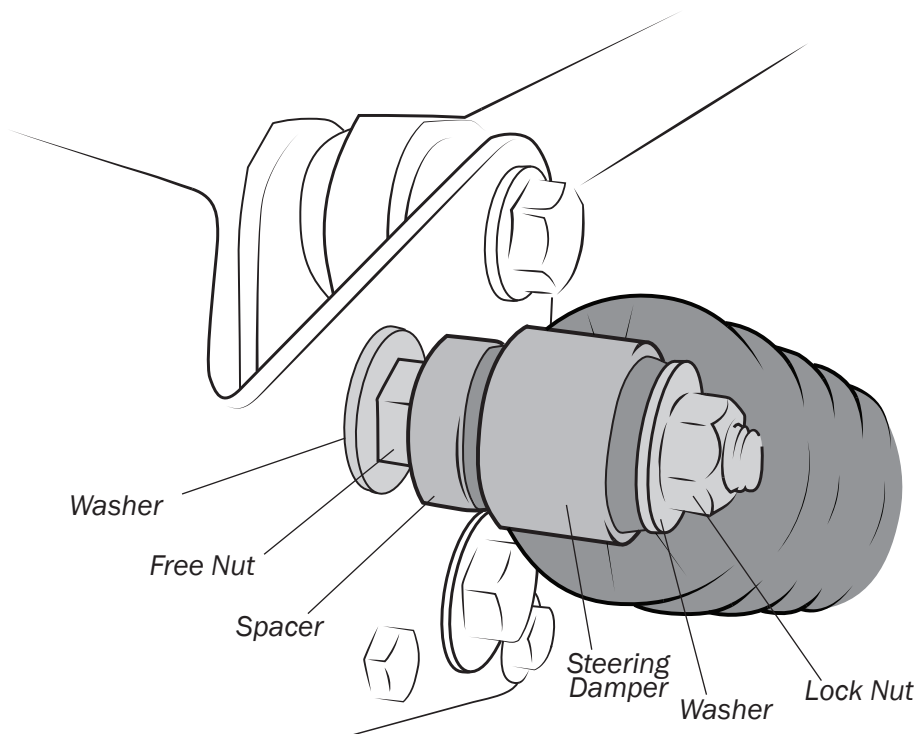

Figure 6
- C. Attach the damper to the new High Steer axle bracket orienting the hardware as shown (Fig. 6). NOTE: the Old Man Emu Steering damper includes a spacer sleeve for proper fitment on bolt. Rotate the black rubber boot on the damper so that the drainage holes are on the bottom.